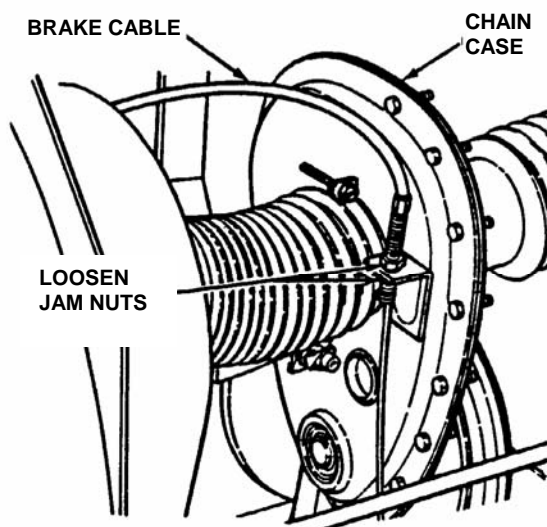

FIGURE 4.10
6. If measurement is not 3/4", loosen the two jam-nuts. See Figure 4.10. Hold the clutch/brake cable to the chain case bracket.